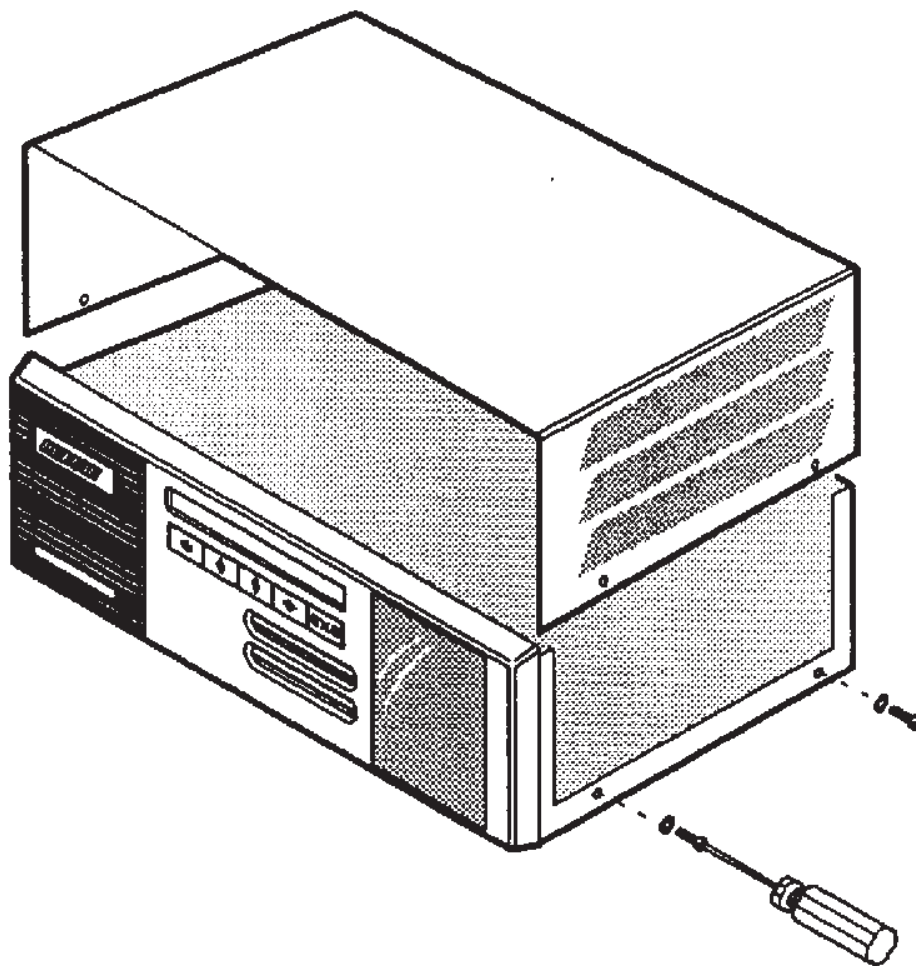

Figure 3-3. Removing the cover of a Multiserver Base Unit.
1. Using a Number 2 or Number 3 Phillips screw-driver, remove and save the four screws (two on each side) from the cover (see Figure 3-3.)